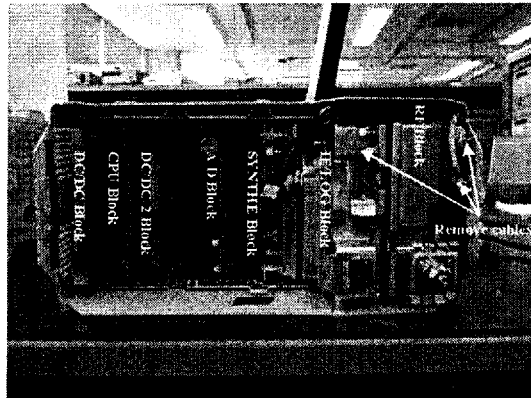
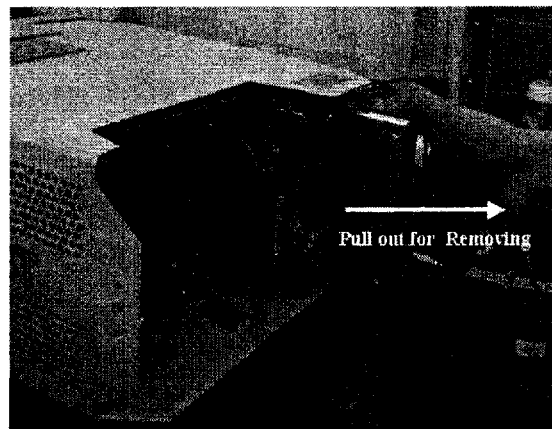

Figure 5-6 Locations of Blocks
Figure 5-7 Removing RF Block
6. Remove RF cable and pull RF block out, refer to Figure 5-6 and Figure 5-7.
Location of blocks is shown in Figure 5-6.